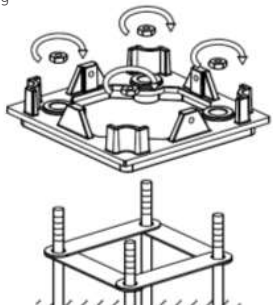

Fig. 2
- When the concrete is set, fix the baseplate to the threaded rods using the spring washers and nuts provided (see Fig. 2)